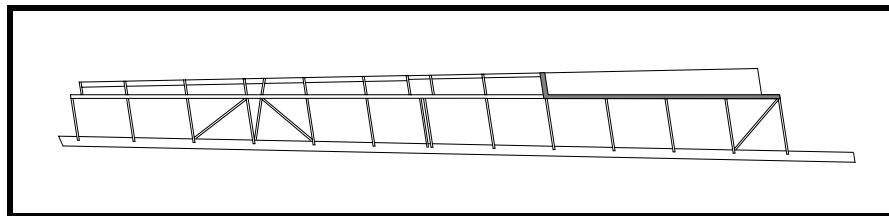

Figure 17
- ❑ Fit and install the lower leading edge skin between Sta. 2 and 6. See Figure 17. The skin should extend all the way to the inboard end of the flap spar. Before installation, scarf for the joint for the trailing edge skin and the next outboard skin.